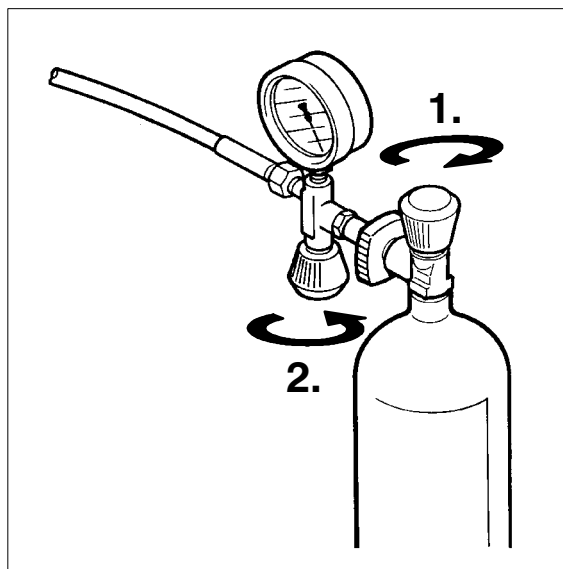

Fig. 25 Removing air bottle
- Upon reaching final bottle pressure **close bottle valve first (1, Fig. 25), then filling valve** by returning handle to closed position (2).